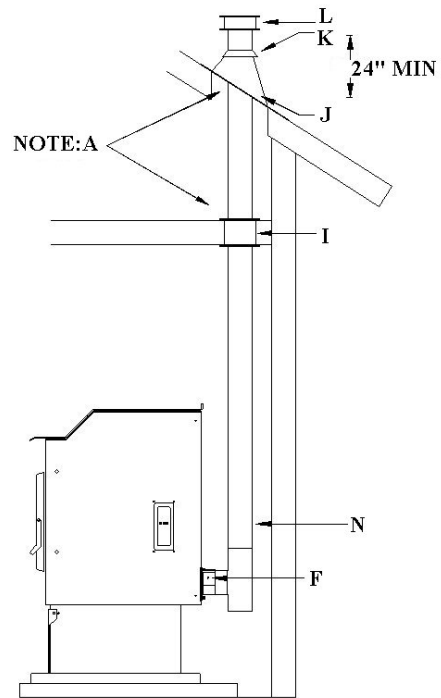

Figure 5
2. When extending through the roof, (Figure 5) install a PL vent fire stop (I) in the ceiling or in the eaves if the eaves are boxed in. Install roof flashing (J) and a storm collar (K). Extend the PL vent at least twenty-four inches (24'') above the roof and terminate with a PL listed rain cap (L).